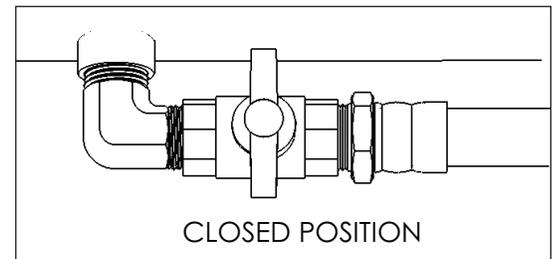

Figure 1
1. Close ball valve by turning the handle counter-clockwise until it stops in 90° position, as shown in Figure 1.